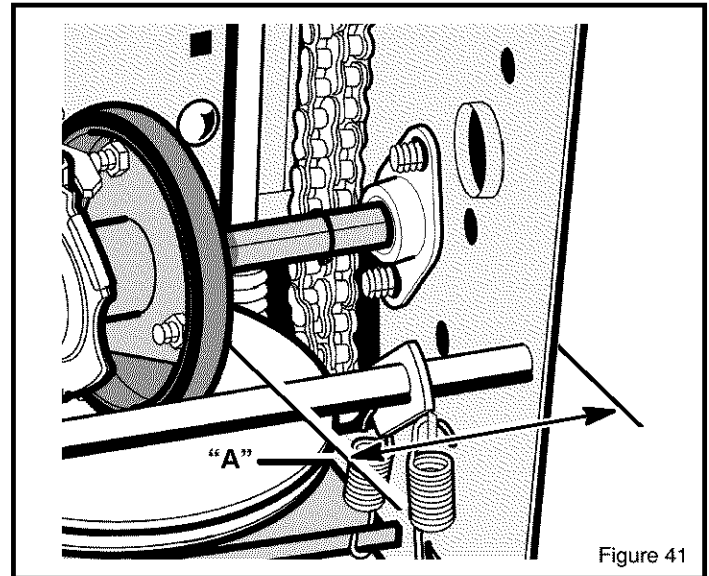

Figure 41
6. Note the position of the **friction wheel** (see Figure 41). The correct distance "A" from the right side of the **friction wheel** to the outside of the motorbox is as follows:
3. Move the **friction wheel** to the correct position (see Figure 41).